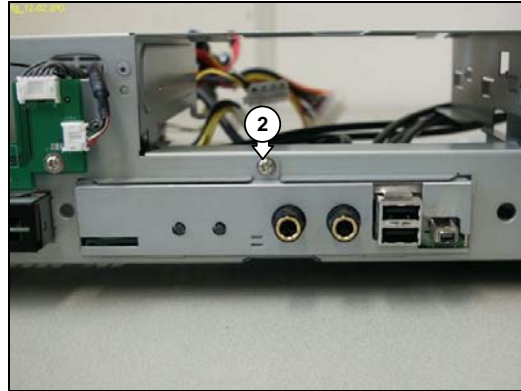

Figure 12.12-2
7. Remove the mounting screw (2) from the FP I/O board subassembly. See Figure 12.12-2.